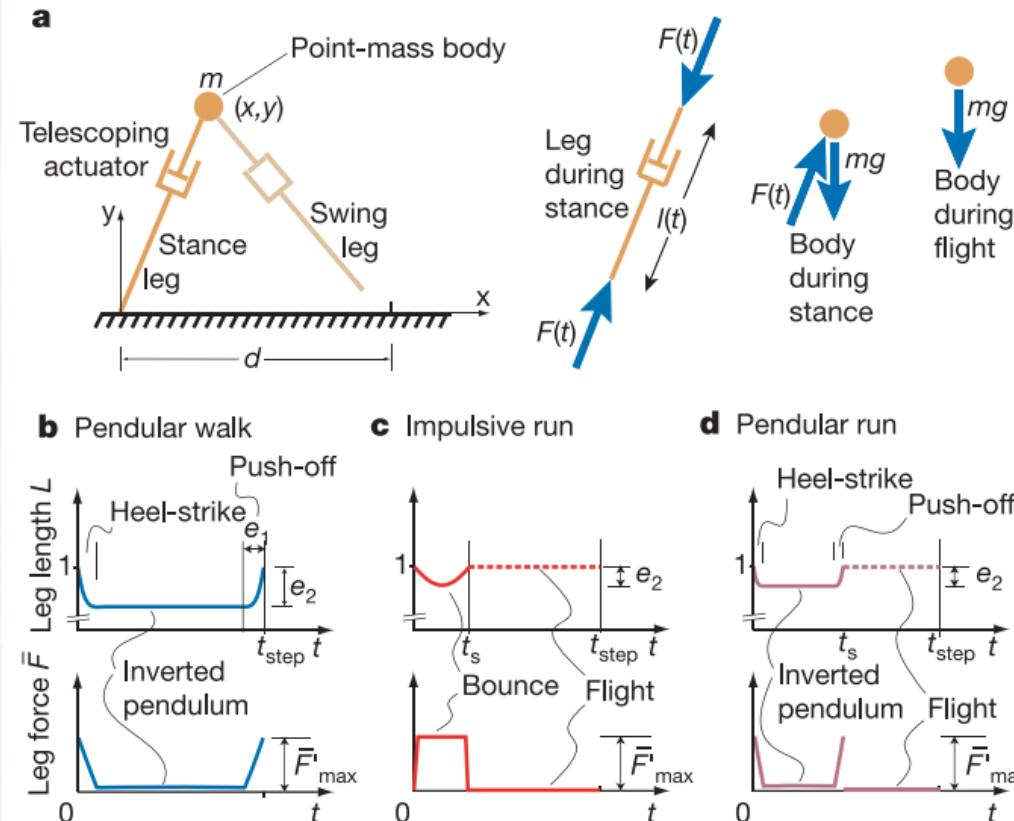

Figure 2 | Point-mass biped model and its optimal solutions.
Fig. 2. Three level-ground powered walking robots based on the ramp-walking designs of Fig. 1. (A) The Cornell biped. (B) The Delft biped. (C) The MIT learning biped. These powered robots have motions close to those of their ramp-walking counterparts as seen in the supporting online movies (movies S1 to S3). Information on their construction is in the supporting online text (9).